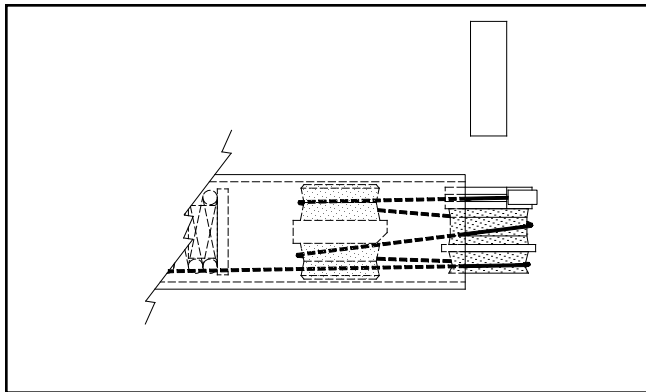

Figure 20
10. Once you have the cable wrapped properly, pull slowly on the other end of the cable while holding the pulleys and swage in place with the other hand to prevent the cable from unwrapping. Keep tension on the cable and slide the pulleys into the AutoStop tube. (Figure 20) When the second set of pulleys start into the tube, stop and remove the